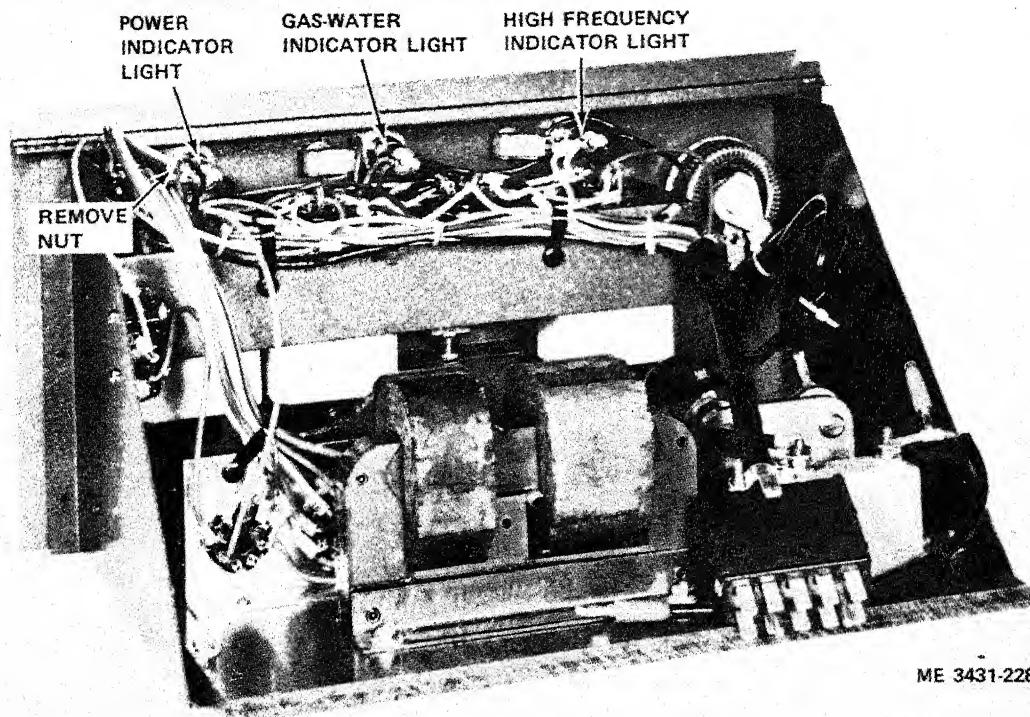

Figure 3-7. Pilot lights, removal and installation.
(1) Disconnect ac power from the welding machine.
(2) Remove the pilot lamps (para 3-8b).
(3) Remove the timer and high frequency drawer (para 3-19) to obtain access to the interior.
(4) Refer to figure 3-7 and remove the pilot lights.
(1) Refer to figure 3-7 and install the pilot lights.
(2) Install the timer and high frequency drawer (para 3-19).
(3) Install the pilot lamps (para 3-8b).